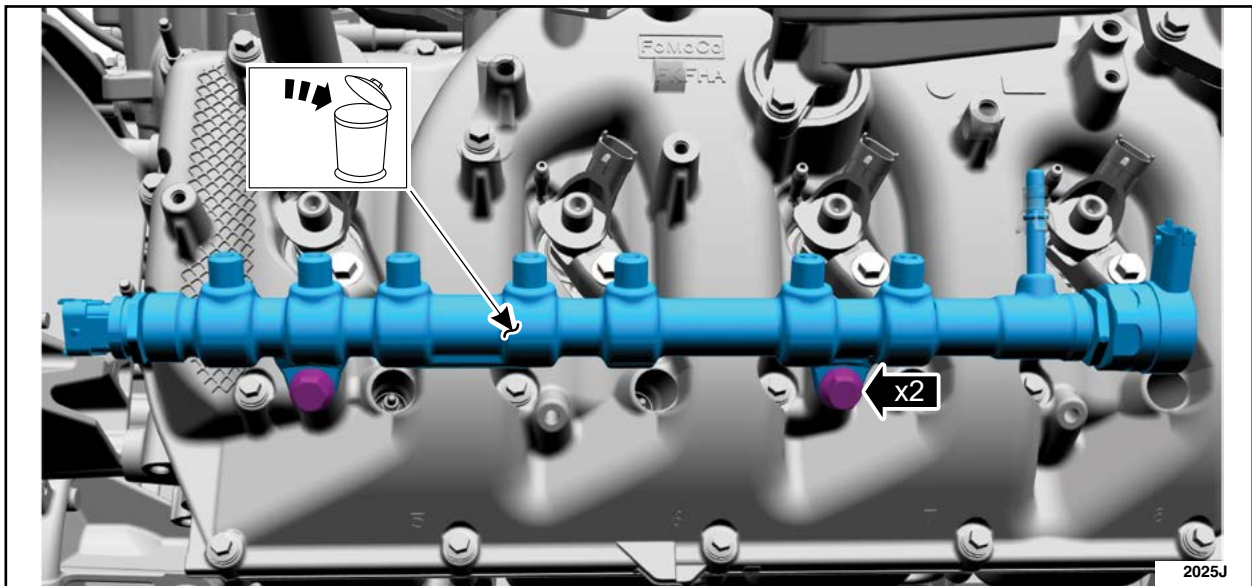

FIGURE 9
12. Remove the LH fuel rail bolts, then remove and discard the LH fuel rail only. See Figure 9.